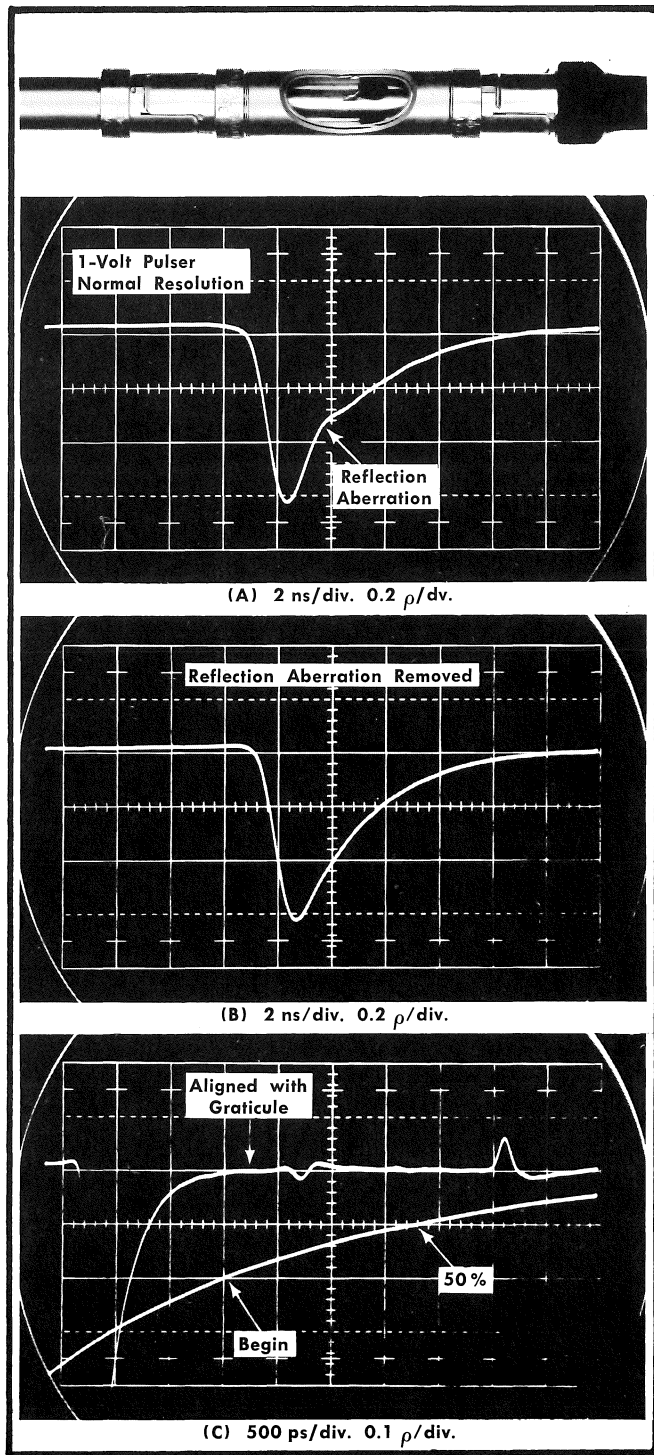

Fig. 2-12. Example of moving display reflection aberrations to obtain a "clean" exponential curve.
For example, a 100 pF discap was soldered into a General Radio Radiating Line section (Fig. 2-12). The 1-Volt pulser was used; re-reflections from the pulser distort the exponential curve at the arrow of Fig. 2-12A. The re-reflection is moved to the right just outside the time window by placing a 20 ns signal delay RG213/U cable between the pulser and the sampler. The acceptable waveform is shown in Fig. 2-12B. Fig. 2-12C is a double exposure that shows first how the "end" of the exponential curve is set to a graticule line. Then the display is time expanded to 500 ps/DIV (leaving the vertical position as adjusted) and the new arbitrary 100% exponential curve is chosen and marked. The capacitor's value taken from the time expanded curve of Fig. 2-12C and using the formula (5) is 104 pF ($1.8 \times 10^{-9} / 0.693 \div 25 = 1.04 \times 10^{-10} = 104 \text{ pF}$). Note that the vertical ρ factor was changed for Fig. 2-12C in order to make the time constant measurement from a clean section of the curve near its end.